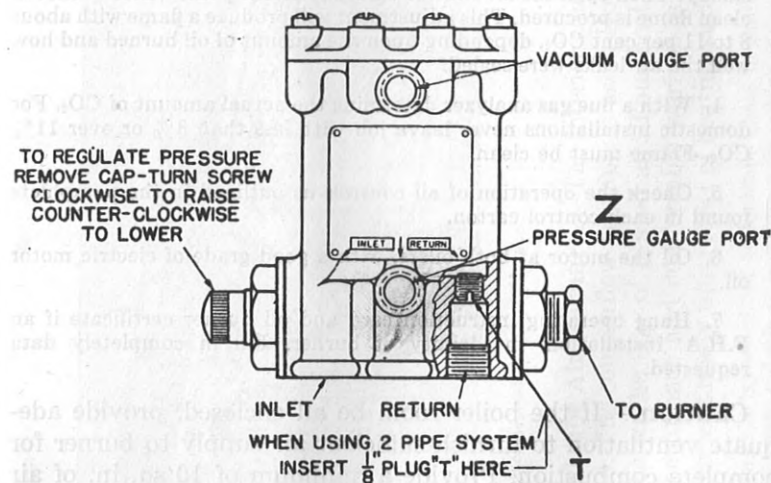

FIG. 9.—Pump assembly.
9. Purge the air from the pump assembly by removing lower plug Z on side of pump. See fig. 9. Set thermostat above room temperature. Close burner switch and run burner until oil flows from this opening. Catch this in a can or jar. When no further air is evidenced and a steady oil stream appears then:
11. Start the burner and adjust the pressure regulating valve see fig. 9, to about 95 lbs. Adjust the air shutter M, fig. 5, to produce a clean flame.